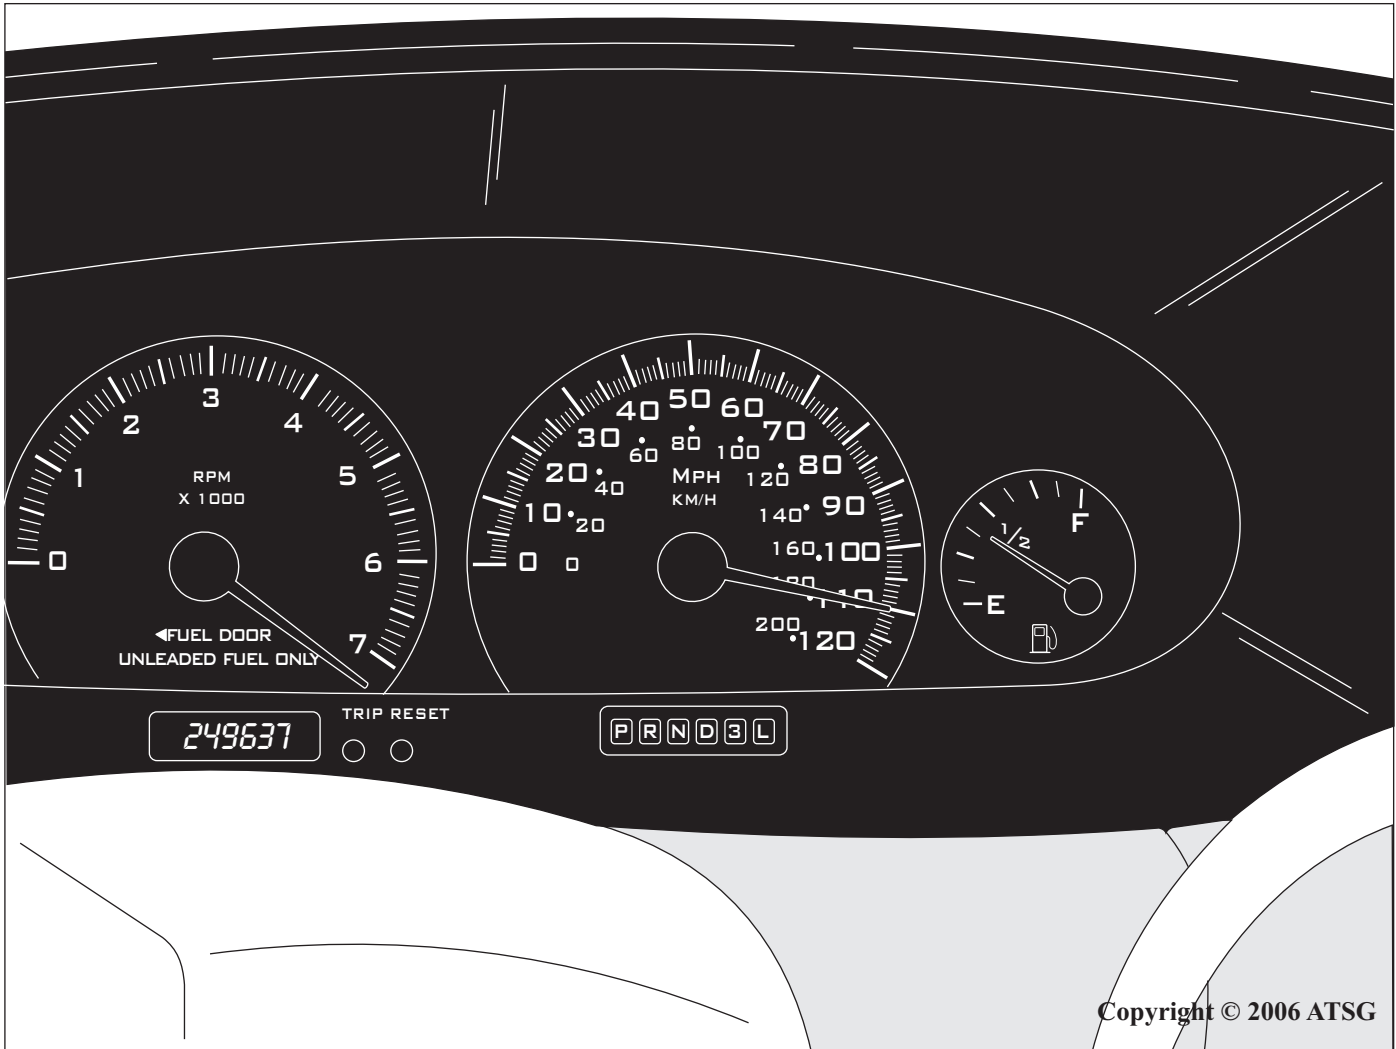

Figure 2
Only on vehicles equipped with a Transmission Range Sensor and the TCM being the cause of the loss of VSS signal, all the PRNODL lamps may be illuminated as shown in Figure 2. Before condemning the TCM, supply a direct 12 volt jumper lead to TCM terminal 11. If this cures the problem, replace the ignition switch. **DO NOT** leave the jumper lead installed and remove the jumper lead **BEFORE** turning the ignition off when this test is complete.
*Electronic Analog Instrument Cluster Self Diagnostic Tests (Refer to Figure 2):*